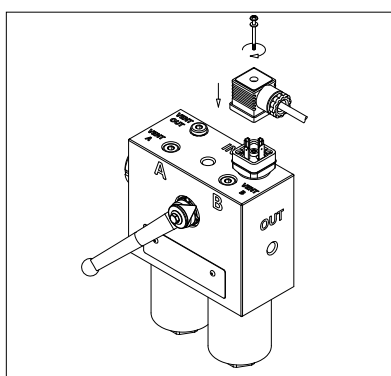

fig. 18
- (Fig. 18) Insert the connector by fastening the central screw (only for electrical indicators)